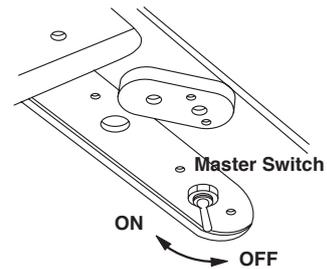

Fig.3-1 Master Switch and Indicator
##### (1) Master Switch (Fig.3-1)